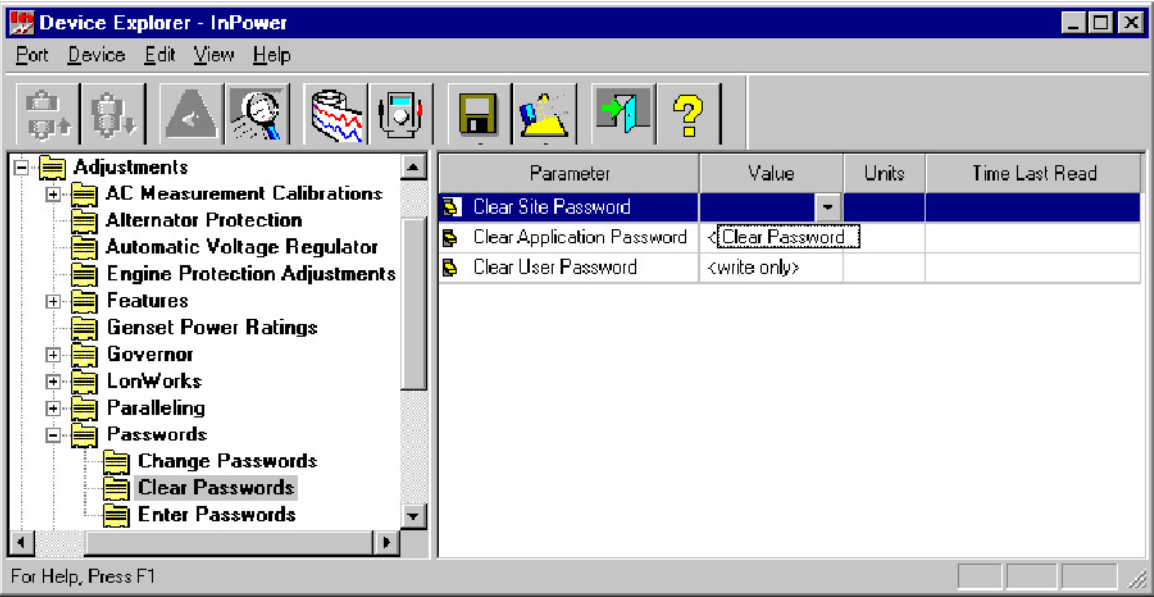

FIGURE 88. CLEAR PASSWORDS
**Password Example 3:** In this example (Figure 88), InPower is used to clear the Application and User Passwords.